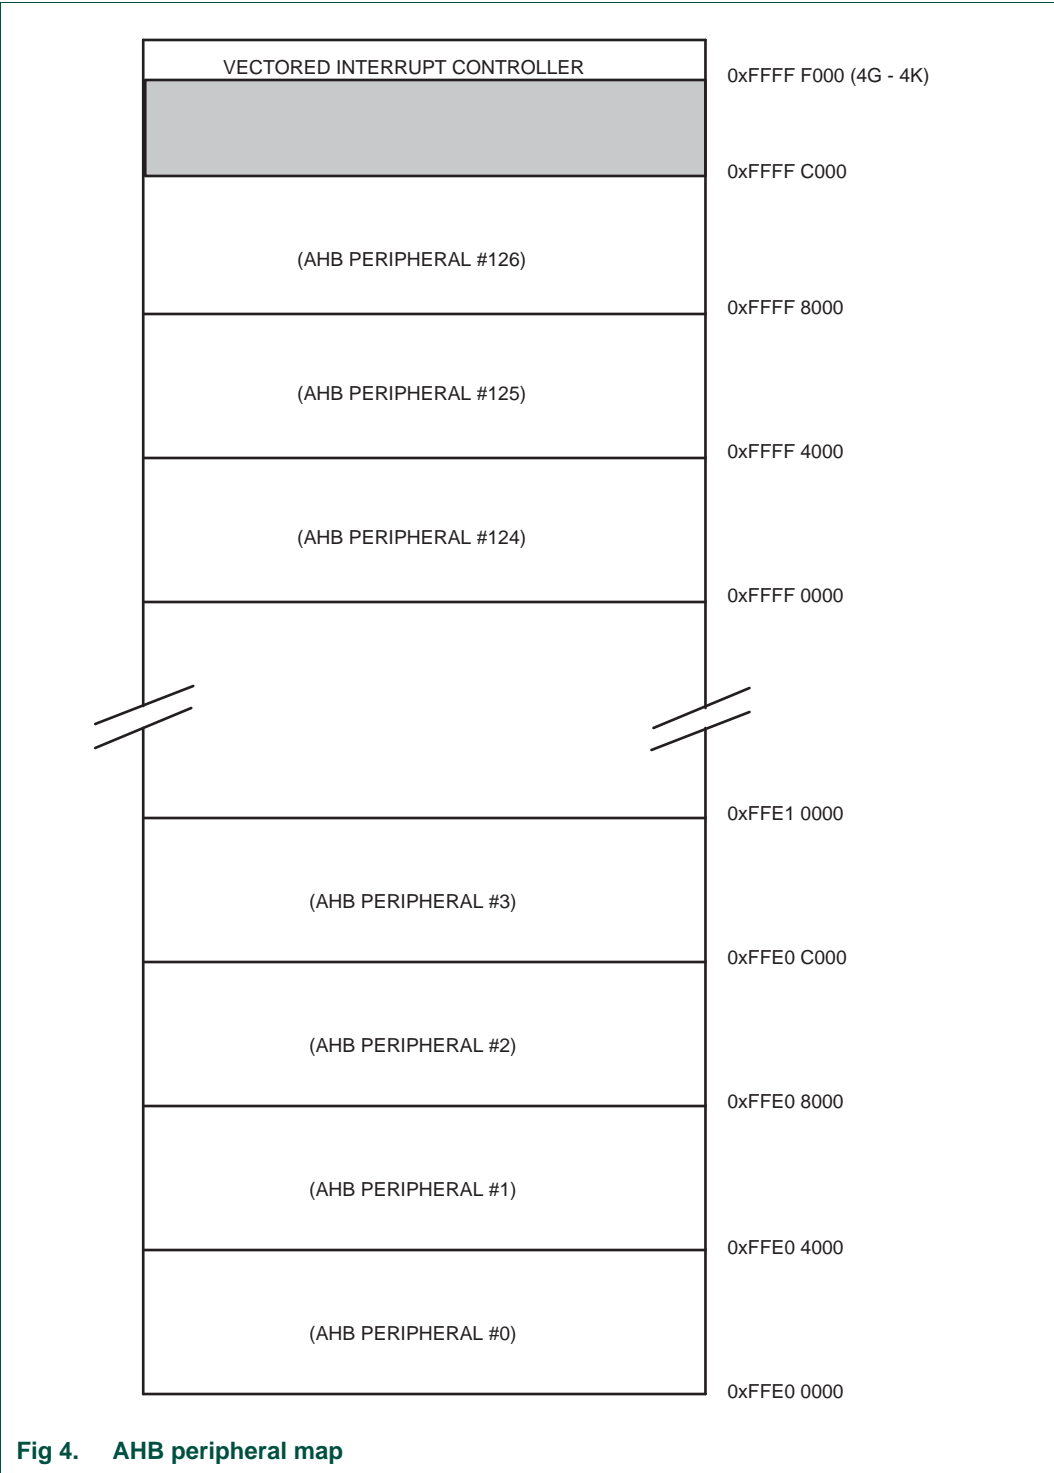

Fig 4. AHB peripheral map
Figure 3 through Figure 4 and Table 2 show different views of the peripheral address space. Both the AHB and APB peripheral areas are 2 megabyte spaces which are divided up into 128 peripherals. Each peripheral space is 16 kilobytes in size. This allows simplifying the address decoding for each peripheral. All peripheral register addresses are
- Unassigned AHB peripheral spaces. See Figure 4.